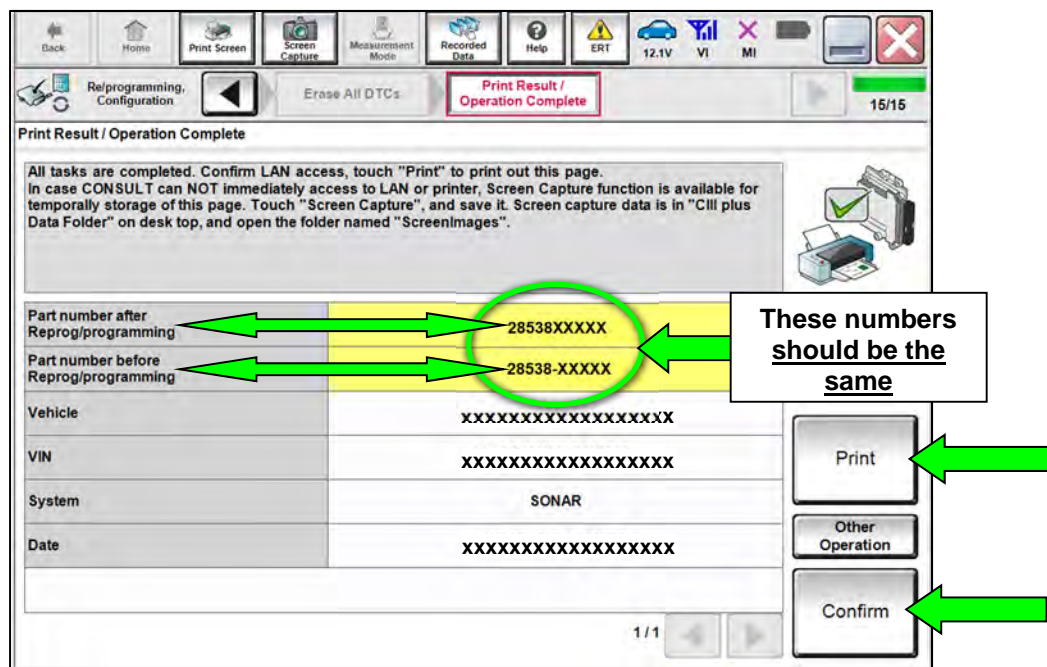

Figure 28
HINT: When the entire reprogramming process is complete, the screen in Figure 28 on page 19 will display.
42. Print a copy of the screen below (Figure 28) and attach it to the repair order for warranty documentation.